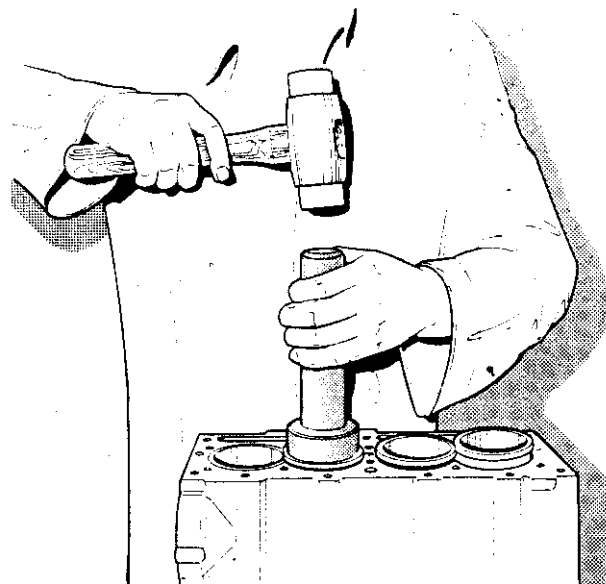

Figure 28 Fitting cylinder liners
2. Using a tool similar to that shown in Figure 28, insert the liners in to the block and ensure that they stand 0.050 to 0.152 mm (0.002 to 0.006 in) proud of the cylinder block face. Check that there is 0.381 mm (0.015 in) clearance between liners.